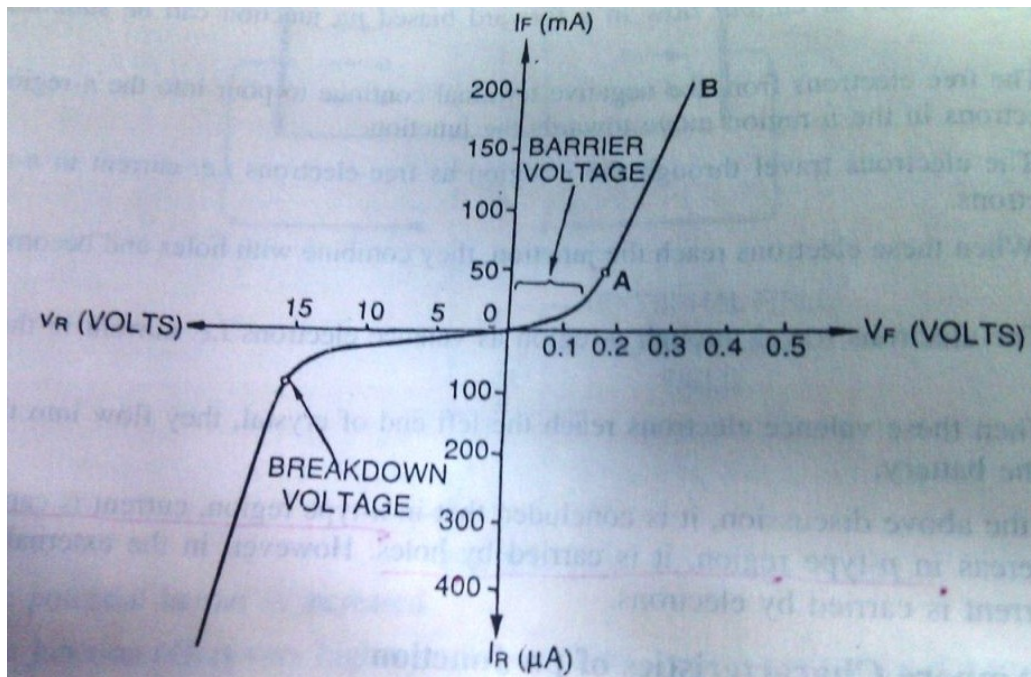

Figure 1.1.17
i) **Zero external voltage:** When the external voltage is zero, i.e. circuit is open at K, the potential barrier at the junction does not permit current flow. Therefore, the circuit current is zero as indicated by point O in Figure 1.1.17.
ii) **Forward bias:** With forward bias to the pn junction i.e. p-type end connected to positive terminal and n-type end connected to negative terminal, the potential barrier is reduced. At some forward voltage 0.7 V for Si and 0.3 V for Ge, the potential barrier is completely eliminated and current starts flowing in the circuit. From now onwards, the current increases with the increase in forward voltage. Thus a rising curve OB is obtained with forward bias as shown in Figure 1.1.17.